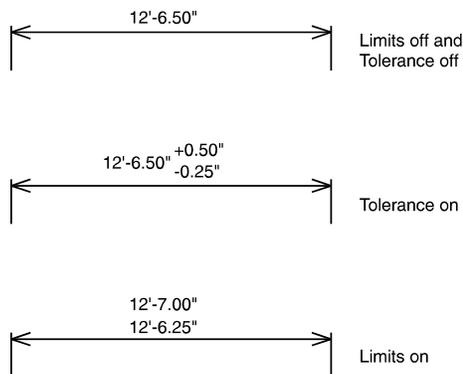

Figure 14.6: Dimensions with Limit and Tolerance settings
- Limits Set the upper and lower limit for the size of entities to dimension (see Figure 14.6)
- Tolerance Set positive and negative geometric tolerances (see Figure 14.6)
Limits	Set the upper and lower limit for the size of entities to dimension (see Figure 14.6)
Tolerance	Set positive and negative geometric tolerances (see Figure 14.6)